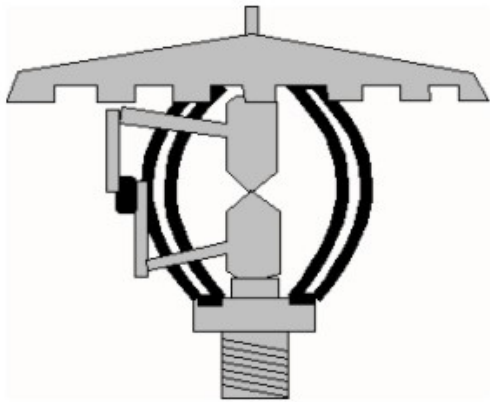

Figure 2 - Upright Sprinkler Head
- **Sprinkler, Upright** - A sprinkler designed for and placed in an upward position above the supply pipe, rather than installed in a downward fashion from the supply pipe. It directs 100 percent of its water toward the floor. A sprinkler designated for upright installation cannot be used in the downward position because the water will be directed to the ceiling instead of toward the fire incident and will not achieve its density pattern for fire control and extinguishment. [See figure 2]